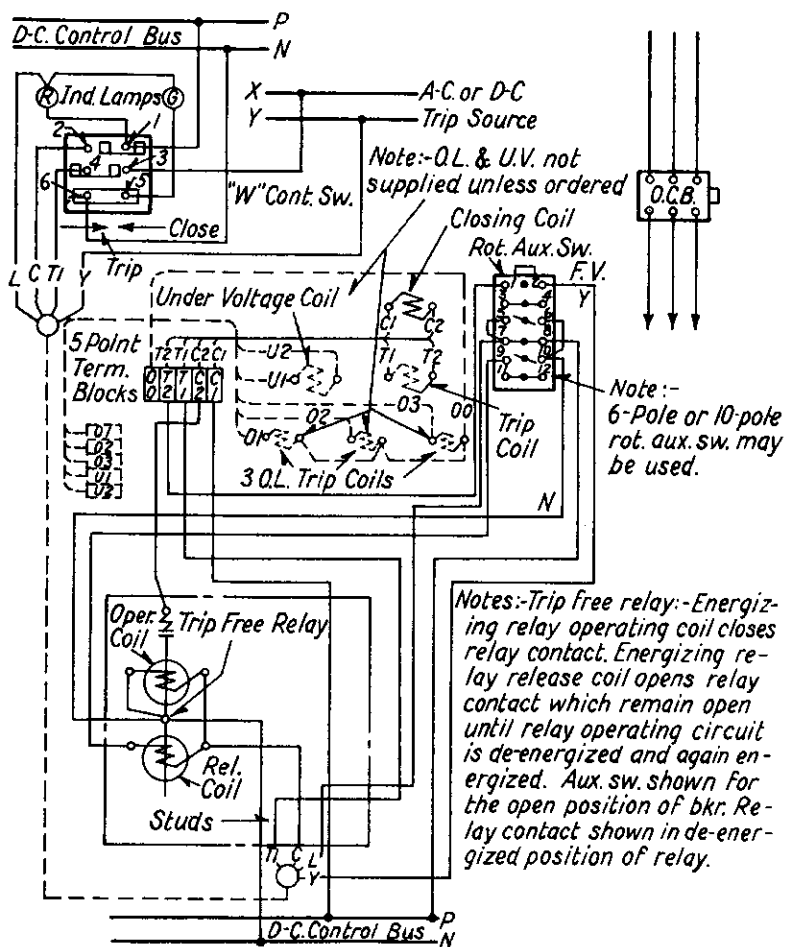

FIG. 8—DIAGRAM OF CONTROL PANEL CONNECTIONS
10. Wire the control panel to the mechanism in accordance with one of the typical diagrams Figs. 8 and 9, or in accordance with the diagram covering the complete installation. (The control panel is not wired at the factory; all wiring must be done at the time of installation.)